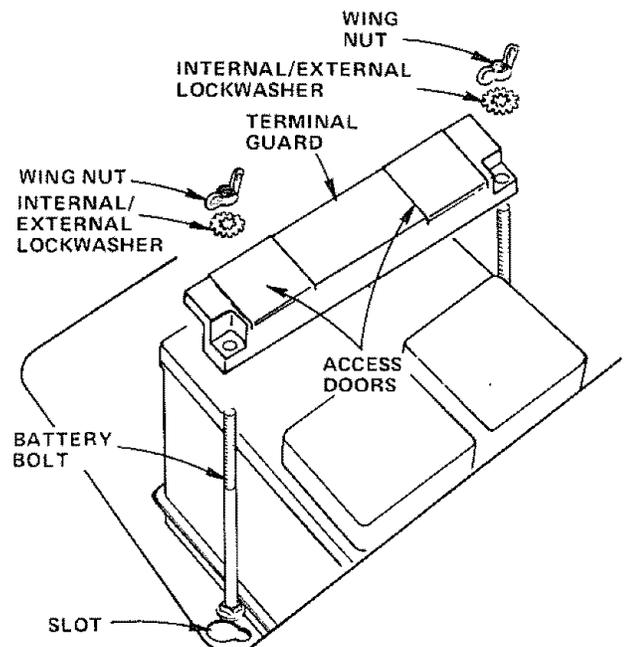

FIGURE 7
e. Using the slot on one side of the battery support (Fig. 7) slide battery bolt into frame slot (head of bolt down). Fasten the battery bolt to the terminal guard using int./ext. lockwasher, wing nut, as shown in Fig. 7.
f. Assemble the remaining battery bolt to other side of battery support and fasten terminal guard to it with remaining int./ext. lockwasher and wing nut. Tighten wing nuts securely by hand (Fig. 7).
- NOTE: USE TERMINAL ACCESS DOORS (FIG. 7) FOR: